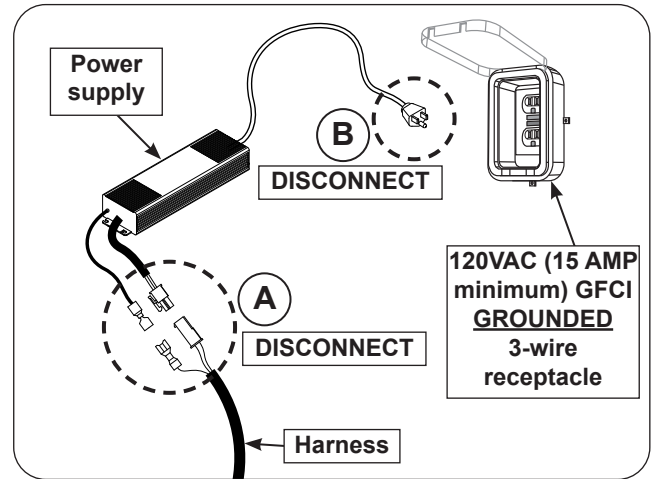

Fig. 45-1 Perform system reset
2. Disconnect the harness from the power supply (see Fig. 45-1, A).
3. Disconnect the power supply from the power source. (see Fig. 45-1, B).